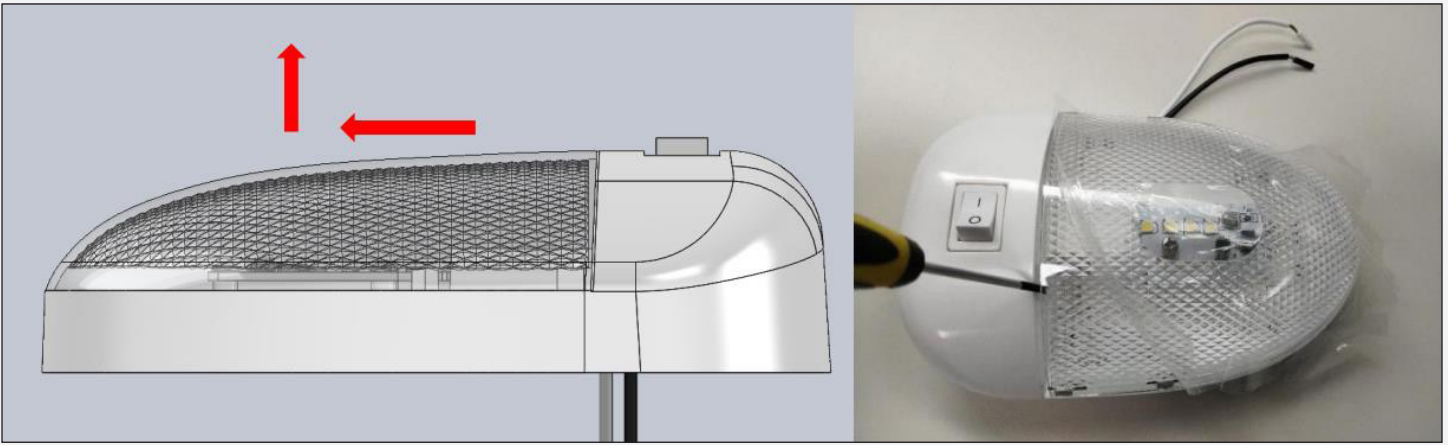

Figure 1: Removal of Lens
- Expose the mounting holes by removing the lens prior to installation. The lens can be removed by sliding it in the direction away from the toggle switch. It may be necessary to use a prying device (Figure 1).